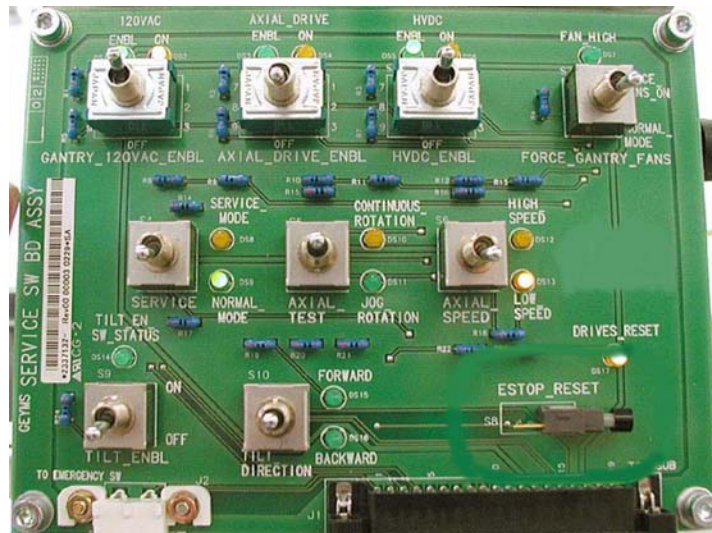

Figure A-11 Service Switch Panel
- 4.) Verify the three (3) power switches have been turned OFF (see Figure A-11).